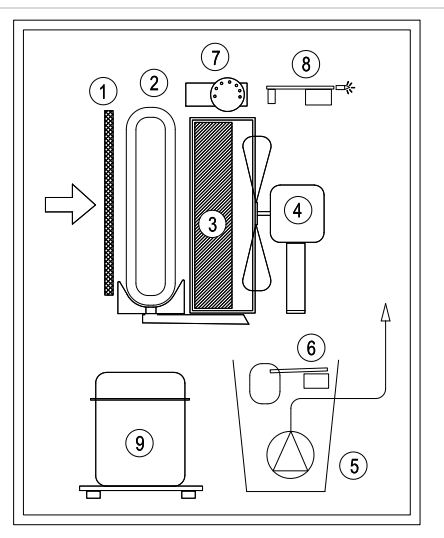

Fig. 3
Fig. 3 refers to the machine provided with lifting pump, which includes a water collection tank (5) and a floating ball stopping device for full tank (6), in case the pump would not unload properly.